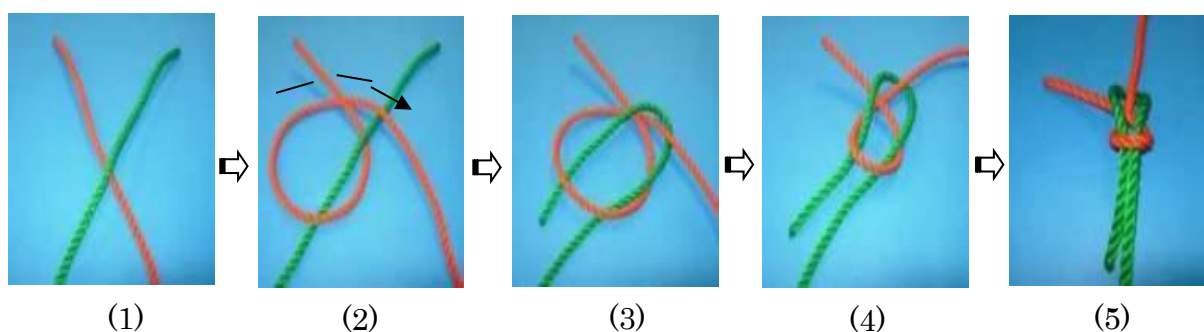

Figure 12: Common tying method
The simplest and most common tying method is shown in Figure 12. It results in an Englishman's knot, which is the same as a sheet bend for a rope. In the case of threads that tend to slip, a double knot with the ring in (2) of Figure 12 formed twice is used.